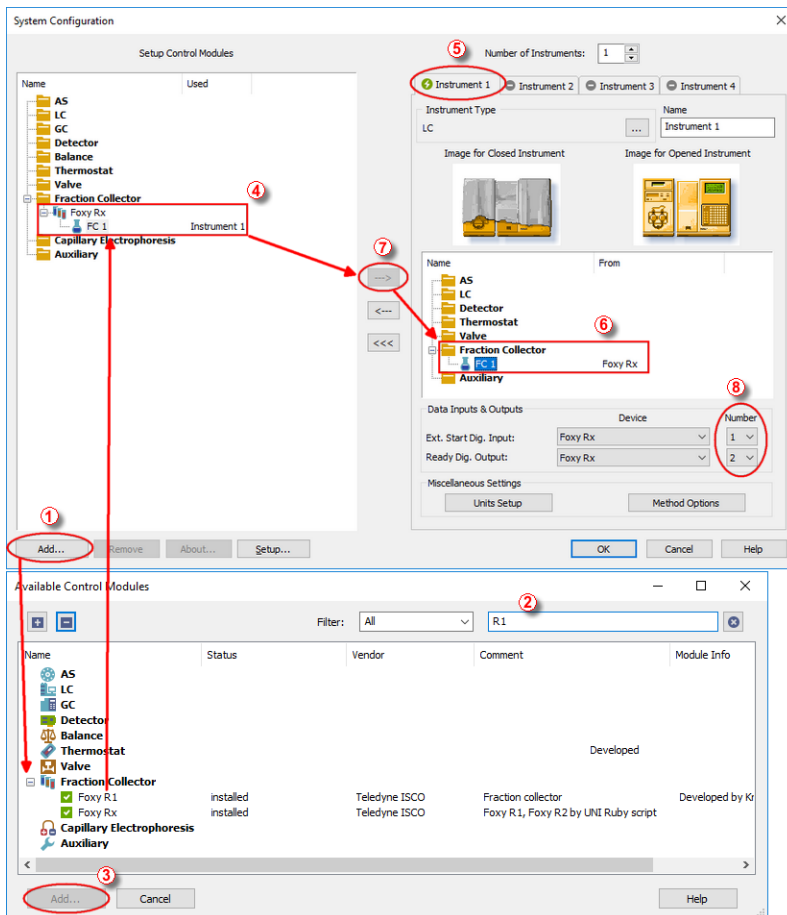

Fig 3: How to Add Teledyne Foxy R1 / R2 Control Module
- Press the **Add** button (1) on Fig 3 on pg 4.) to invoke the **Available Control Modules** dialog.
- You can specify the search filter (2) to simplify the finding of the driver.
- Select the correct item and press the **Add** (③ on **Fig 3** on pg 4.) button. Each device with already created UNI profile should have its own item named accordingly in the **Available Control Modules** dialog.